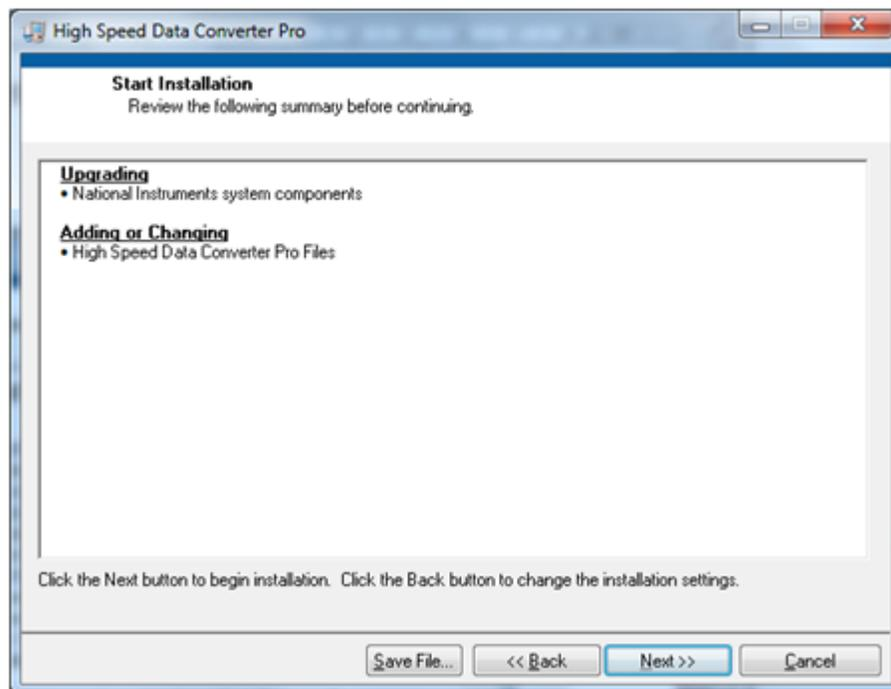

Figure 6. HSDCpro Install (e)
- Press the *Next* button as shown in Figure 6.